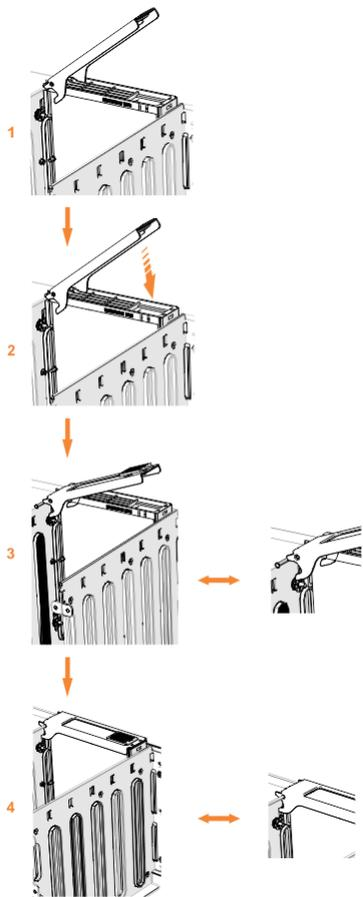

Figure 143. Replace the drive
14. Ensure that the drive handle (1 in Figure 143 on page 202) of the drive assembly is in the open (unlocked) position.
16. Lower the drive down, without pushing, until it stops and the bottom of the latch is aligned with the top of the partition. Ensure that the handle is not open more than 45 degrees from the drive carrier. (2 in Figure 143 on page 202). If the drive does not slide down easily then inform IBM remote technical support.
17. Rotate the handle down to lock the drive assembly into the chassis (3 in Figure 143 on page 202).
19. Ensure that the top toe of the latch is also fully engaged (4 in Figure 143 on page 202).